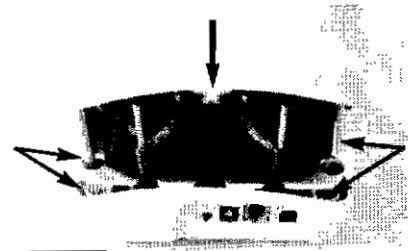

Fig.36
4. Insert the outer cover by aligning the two shafts with the two holes in the base of the unit. See Fig.36. Push down the cover.